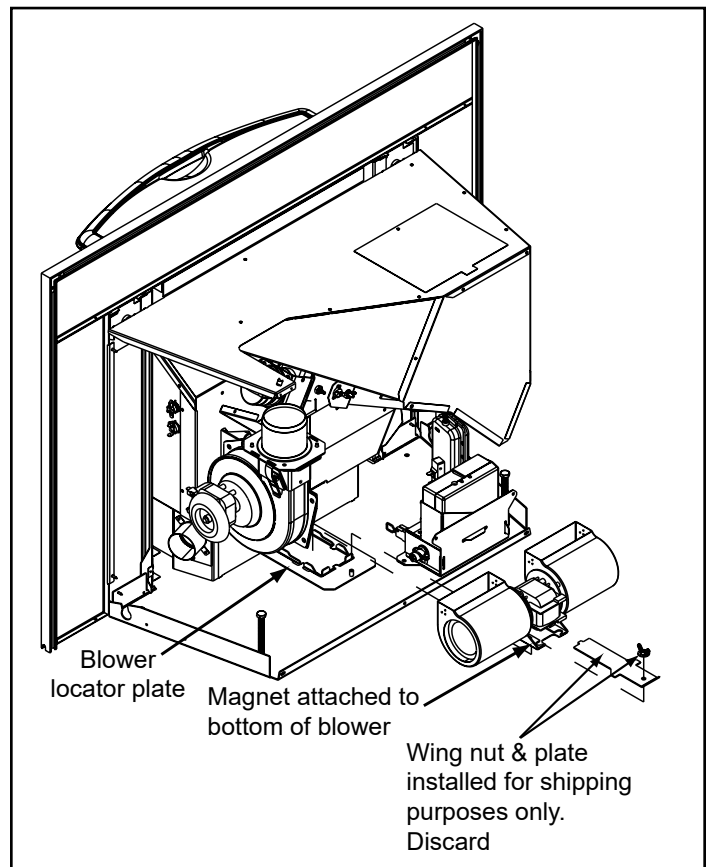

Figure 22.3
- Remove left access panel and then slide out left side panel of appliance to expose the convection blower. Loosen wing nut on the vacuum switch and remove vacuum switch to allow room to remove the blower (**Figure 22.3**).